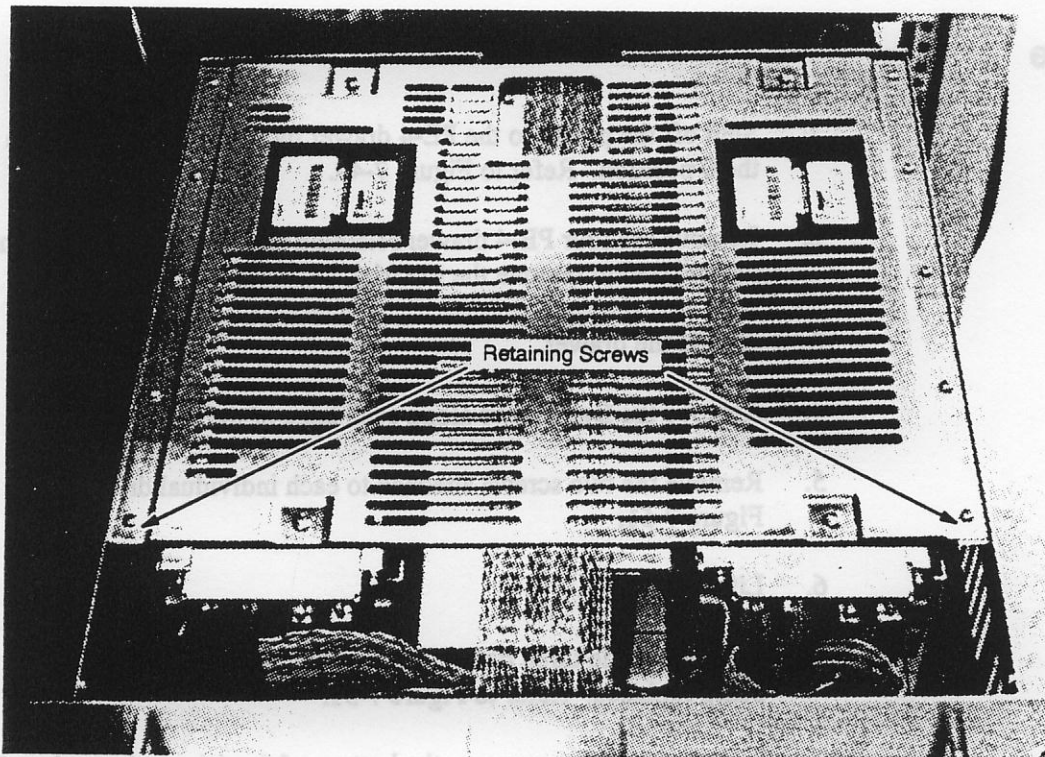

Figure 7-50. PE-4 Drawer Trim
2. Remove the four PE-4 drawer retaining screws that are shown in Figure 7-50 to remove the top trim.